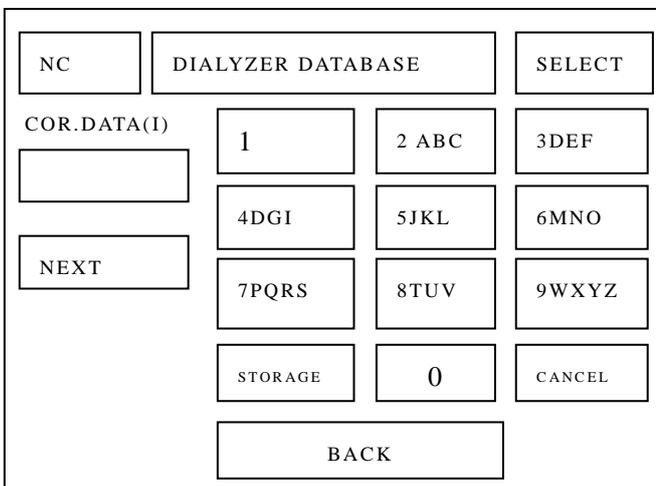
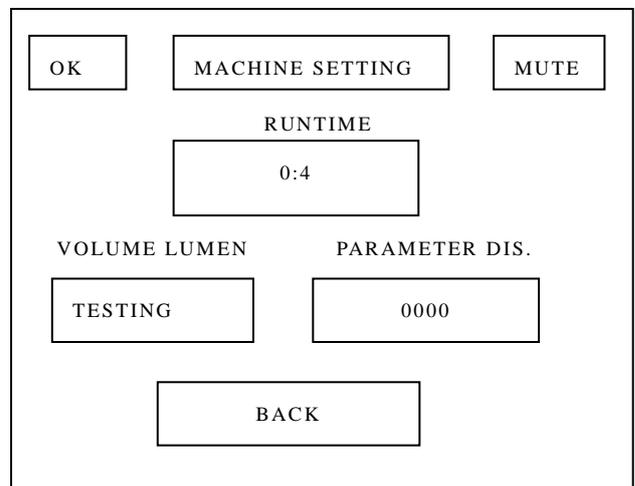

Figure 9-27
Figure 9-28
If correcting Set (I), input and store corresponding volume value of calibration lumen in the corresponding box (Figure 9-27), then press “NEXT”, the machine will skip to Figure 9-28 and calibrate Set (I) automatically, it's the same with Set (II) correction.